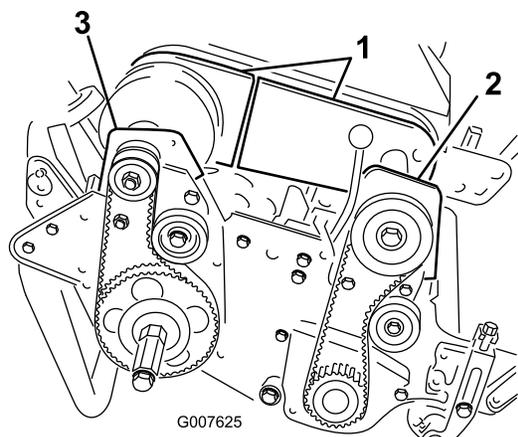

Figure 45
4. Remove the bolts securing the front and rear sections of the differential cover to the differential housing and slide the cover sections away to expose the belt (Figure 45).
8. Remove the 2 bolts and locknuts securing the right rear bearing housing to the side plate (Figure 45).
6. Remove the 2 bolts and locknuts securing the front clutch housing to the side plate (Figure 45).